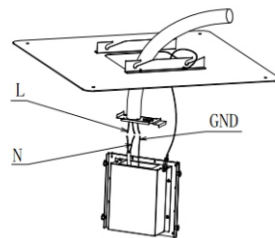

Figure 4
5. Wiring-Attach the safety cable on the lamp by hook. Take off the metal sheet on the driver box. Open the knock out on the metal sheet. Wiring through the knock out, and fix the metal sheet on the driver box with screw after wiring. (Figure 4)